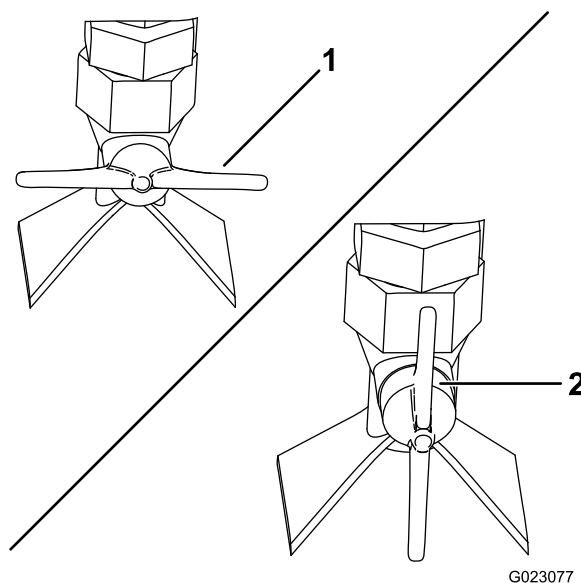

Figure 91
- For fan-shaped spray—turn the spray valve on the side of the nozzle horizontal (Figure 91).
- For a stream—turn the spray valve on the side of the nozzle vertical (Figure 91).